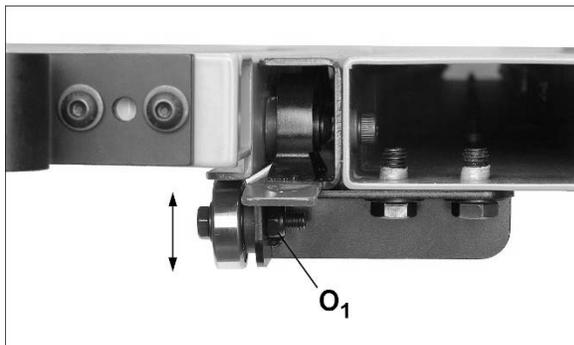

Figure 7-19
14. Check height of horizontal bearing bracket (Figure 7-19). To make adjustments, loosen nut ( $O_1$ ) and raise or lower bearing to just contact bottom lip of table. Tighten nut.